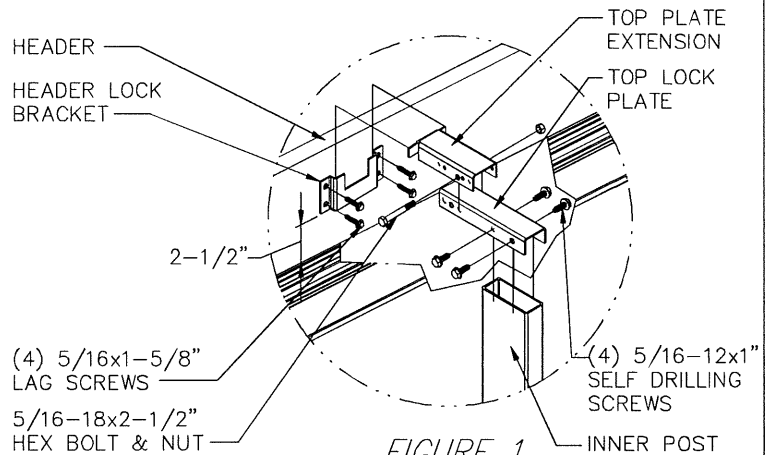

FIGURE 1
ATTACH THE HEADER LOCK BRACKET TO THE HEADER USING THE (4) 5/16"x1-5/8" LAG SCREWS PROVIDED AS SHOWN IN FIGURE 1. THE HEADER LOCK BRACKET SHOULD BE IN LINE WITH THE INTERMEDIATE HINGES WHERE THE POST IS TO BE INSTALLED AND LOCATED SUCH THAT THE BOTTOM OF THE BRACKET IS APPROXIMATELY 2-1/2" ABOVE THE TOP OF THE DOOR.
ALIGN THE LARGE DIAMETER HOLE IN THE TOP PLATE EXTENSION WITH THE THIRD HOLE IN THE TOP LOCK PLATE AS SHOWN IN FIGURE 1 FOR MODELS